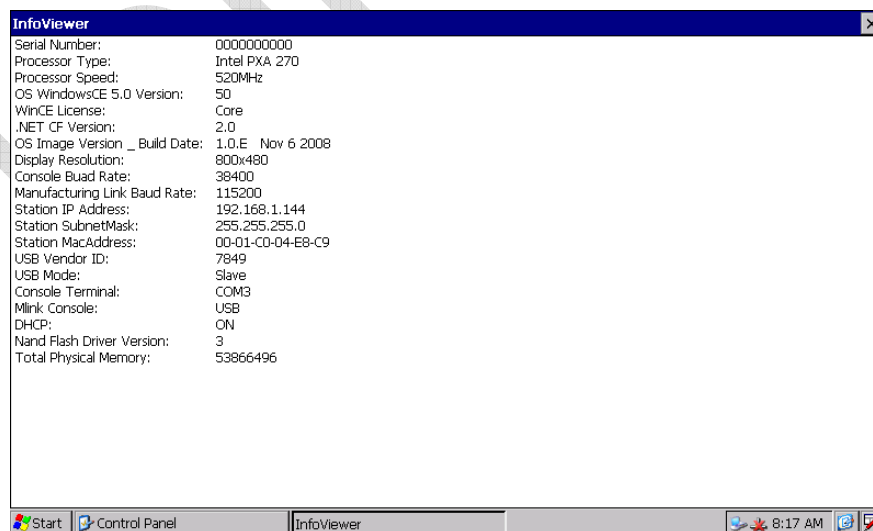

Figure 1.21: 'Infoviewer' log
16. If after following the above process, the ActiveSync connection with the UMR has not been established, please save the resulting trouble-shooter log file 'ASTULog.cab' and send it into Anders support team (umr-support@anders.co.uk) for further inspection. In addition to the trouble-shooter file, please submit the UMR 'infoviewer' log, which can be found in the target 'Control Panel' as shown in Figure 1.21.